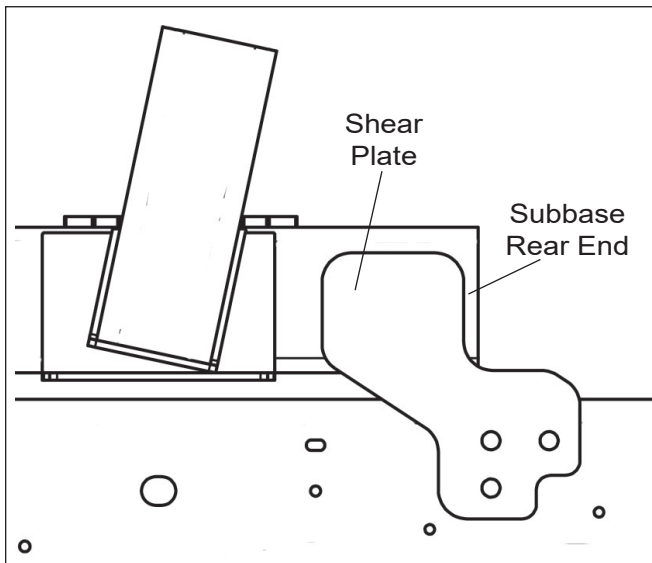

Figure 5 – Shear Plates Located Incorrectly
- If the shear plates are installed with the entire upper portion placed ahead of the rear end of the subbase as shown in Figure 5, modification is required. Proceed to step 14.